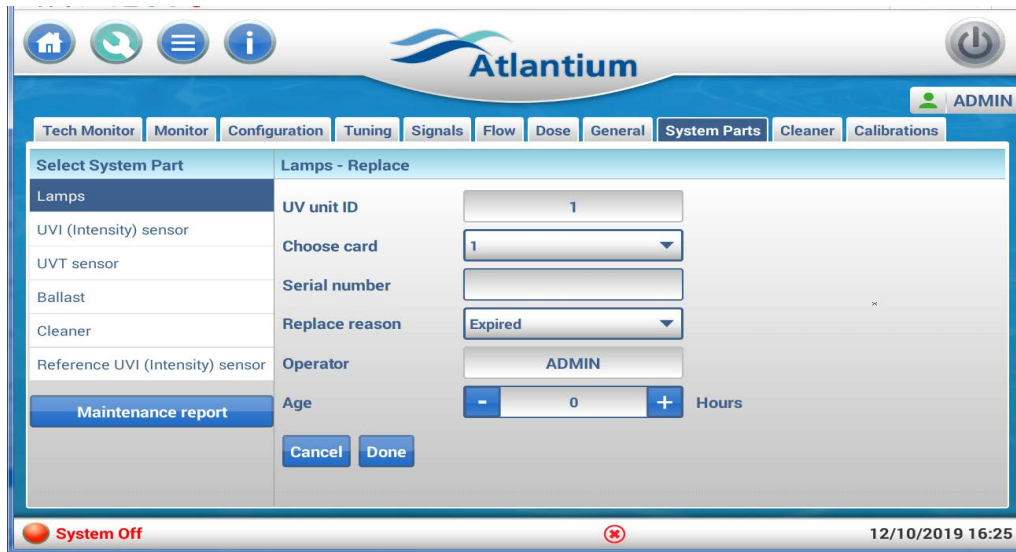

Figure 10-5: System Parts tab with Lamps selected
- Step 1.** Log in as an ADMIN user and tap on **System Parts** tab to open it (see **Figure 10-5**)